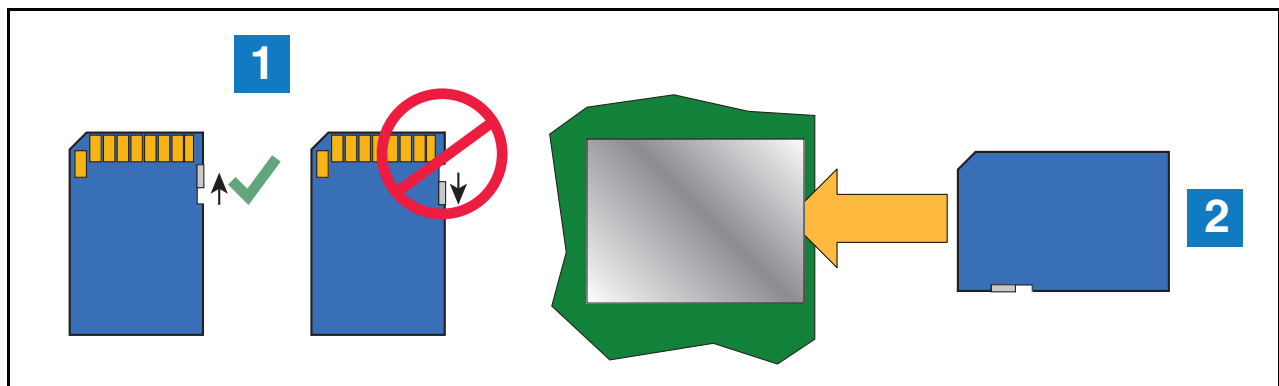

Figure 11. Installing SD Card
- Figure 11. Installing SD Card 8
14. Press the outer edge of the SD card towards the rear of its enclosure and it should spring out so it can be removed. Remove the SD card from the old CPU board and check that the read/write-protect switch on the side of the card is in the position shown in (item 1 Figure 11). Insert the SD card into its enclosure on the new CPU board with the contact side facing the CPU board (item 2) and gently push the card into its enclosure until it clicks into the enclosure's latch.